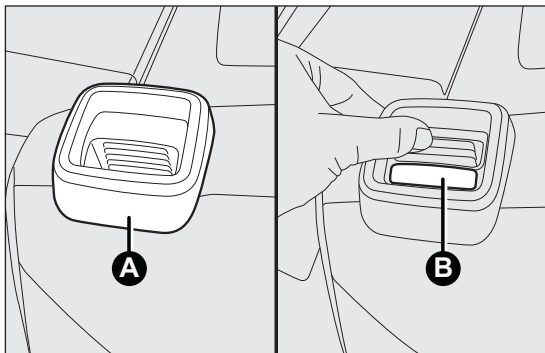

fig. 72
- ☐ *for versions with single rear seat:* operate backrest retainer lever A fig. 72 and fold the backrest forwards to obtain a flat loading area. When you lift the lever, you will see a red band B fig. 72.